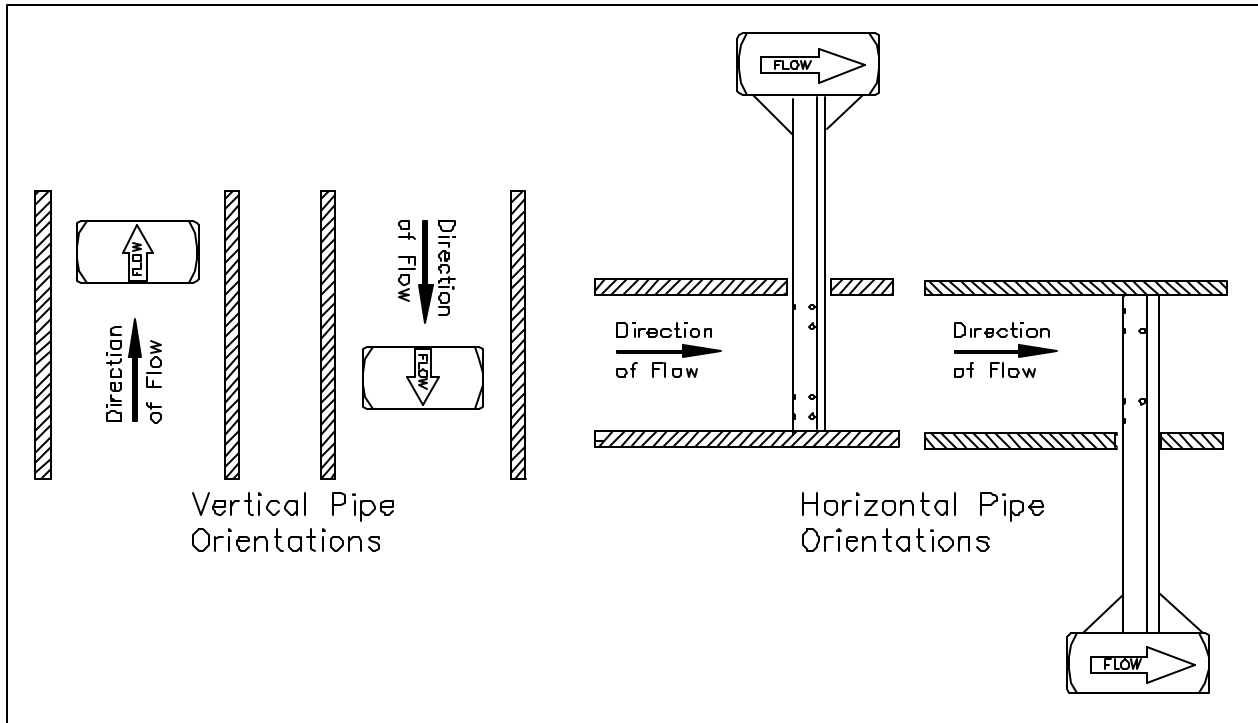

Figure 7. Orientation of Flow Arrow
Apply appropriate thread sealant to the access nipple and thread the access nipple into the access valve. Orient the sensor such that the arrow labeled "flow" on the instrument head is in the direction of the flow in the pipe to within 3° (orientation per Figure 7).
- The Verabar should be oriented such that the arrow on the head is pointing in the direction of flow. Orientation of flow arrow is per (A) or (B) in Figure 7.
- Re-verify that the orientation of the sensor is such that the arrow labeled “flow” on the instrument head is in the direction of the flow in the pipe to within 3° (Figure 7).